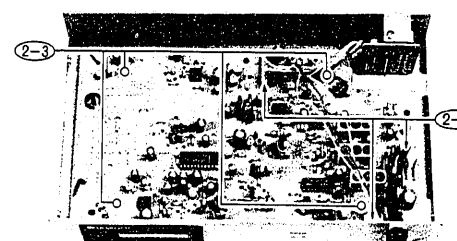

Fig. 2
2. Stereo Adapter Circuit Board Removal (Fig. 2)